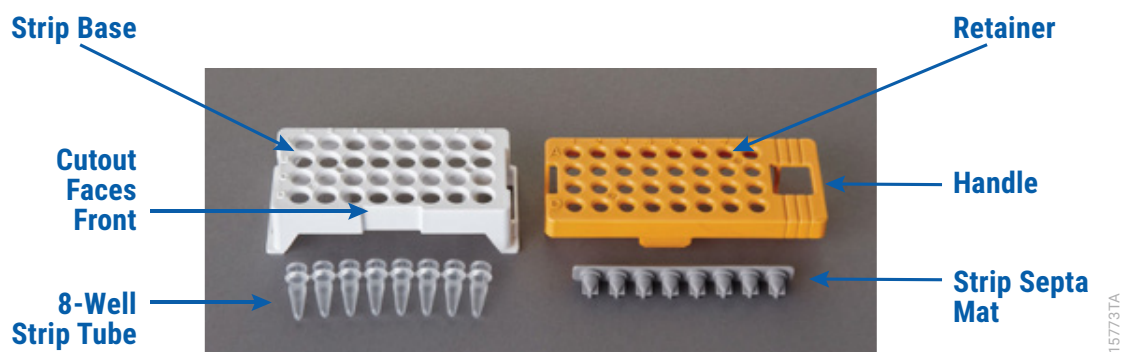
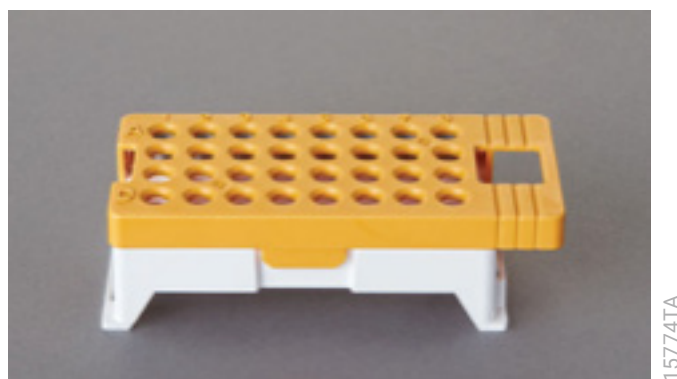

Figure 7. Assembling the Spectrum Compact Strip Base and Retainer.
Figure 8. Assembled Spectrum Compact Sample Cartridge.
Samples prepared in 8-well strip tubes are assembled into the strip base and retainer (Figure 7) to form the sample cartridge (Figure 8) which can be loaded onto the Spectrum Compact CE System. Samples are injected in groups of four, such that one 8-well strip tube can be used for two injections. Each 8-well strip tube corresponds to one lane (A, B, C or D) of the sample cartridge. Samples are injected in groups of four across a lane (not by column). For example, samples in well positions A1 through A4 are injected together, followed by samples in well positions A5 through A8 for the second injection. This pattern is then repeated for samples in lanes B, C and D. Refer to the *Spectrum Compact CE System Operating Manual #TMD058* for information on changing the order of injections during run setup.
1. Place the 8-well strip tube(s) with the Strip Septa Mat, 8-well, into the strip base (Figure 7). When using fewer than 4 strips in the run, you can place the strips in any lane.
2. To complete the assembly, place the retainer over the strip(s) in the strip base, aligning the lanes A to D and wells 1 to 8 on the retainer to those on the strip base and pressing until the retainer clicks into the strip base (Figure 8).